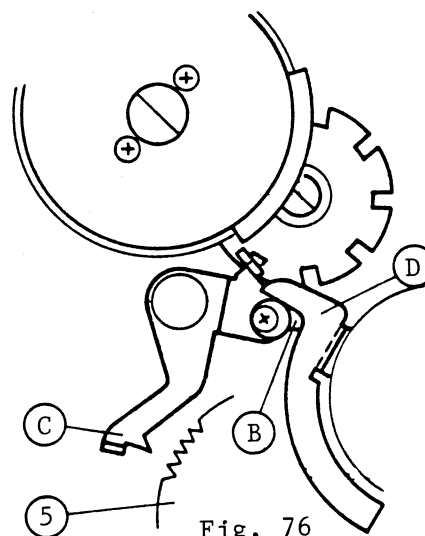

Fig. 76
- 1) With the shutter released, the (D) moves in direction shown by the arrow and then the (B) end of SLS15842 Stop lever is detached from the (3) Film counter dividing device and the other end (C) from the F.clutch wheel as shown in Fig. 76.